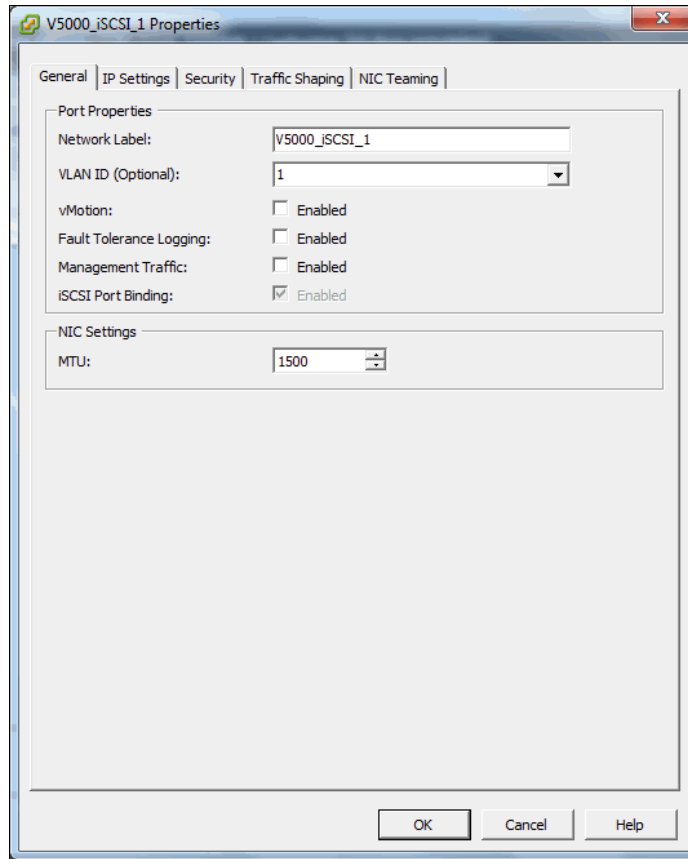

Figure 5-34 Editing a VMkernel port
2. Select one of the VMkernel ports and click **Edit**. The window that is shown in Figure 5-34 opens.